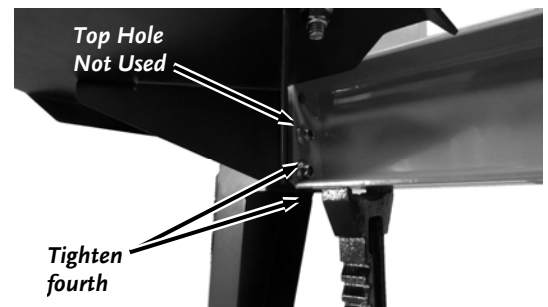

Figure 9
- Fourth, tighten the four Bolts and Locknuts that secure the Frame Stand and Support Brackets to the Beam (**Figure 9**).